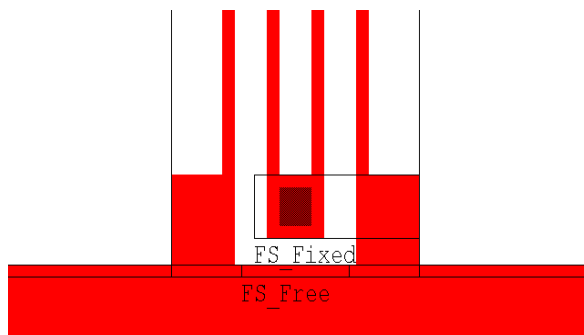

Figure 22: Positioning the folded spring
- ☒ Position it above the center of the plate so that it overlaps (see Figure 22).